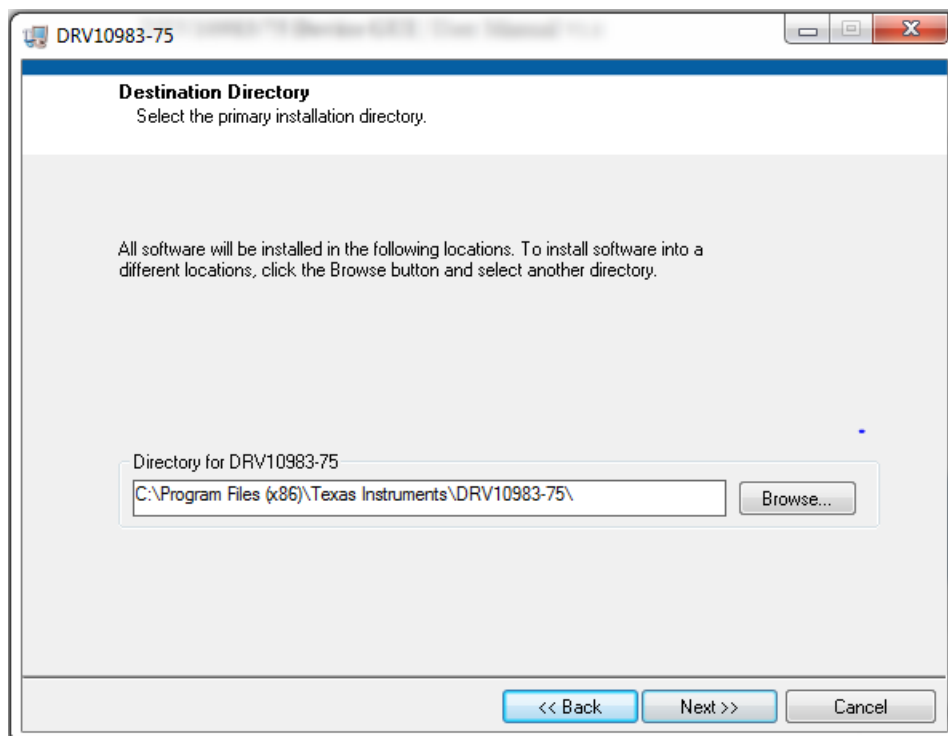

Figure 16. GUI Destination Directory
3. Set the destination directories for the GUI installation and press the *Next >>* button as shown in Figure 16. It is recommended to keep the default values as provided in the installer.